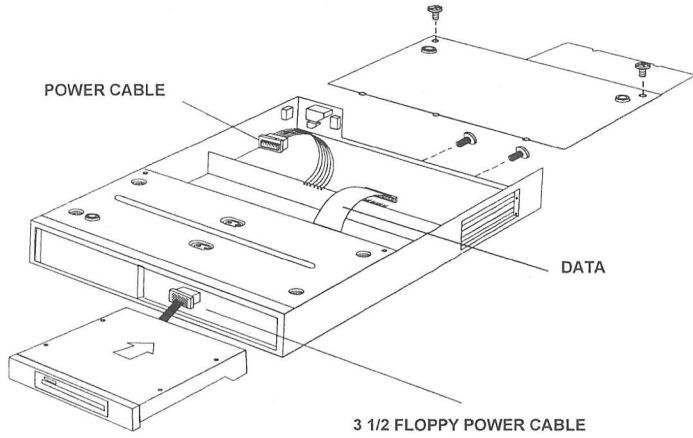

Figure 3-3
9. Make the necessary connections for power and data lines in the docking station (see figure 3.3)